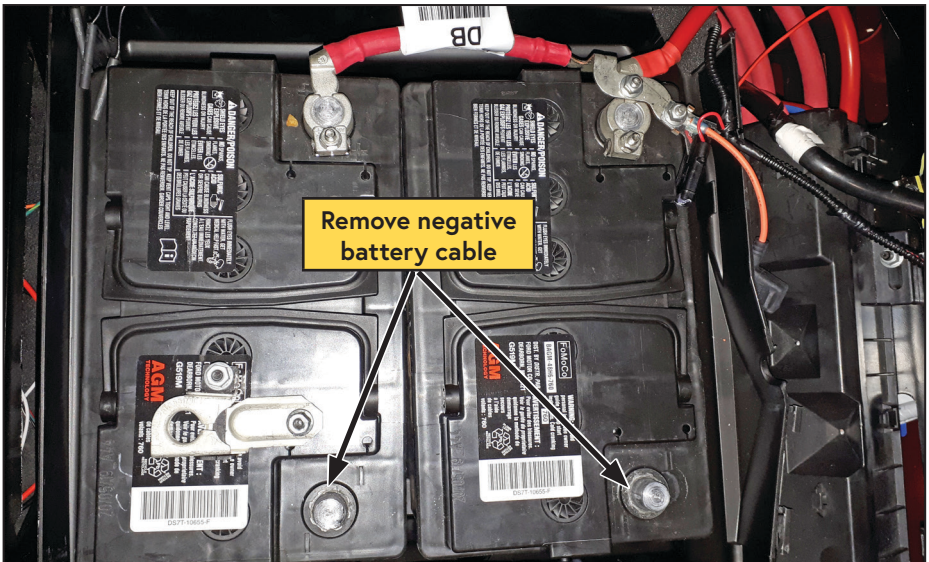

Figure 5 — Battery cables
- Disconnect the negative battery cable(s) from the battery terminal stud (Figure 5).